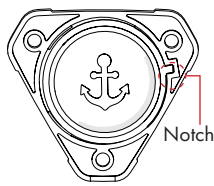

Figure 2
STEP 6 Install the **Membrane** to the **Bottom Housing** so the **Tab** goes into the **Notch** on the **Bottom Housing**. Make sure the **Plastic Disc** does not fall out. **FIG 2**